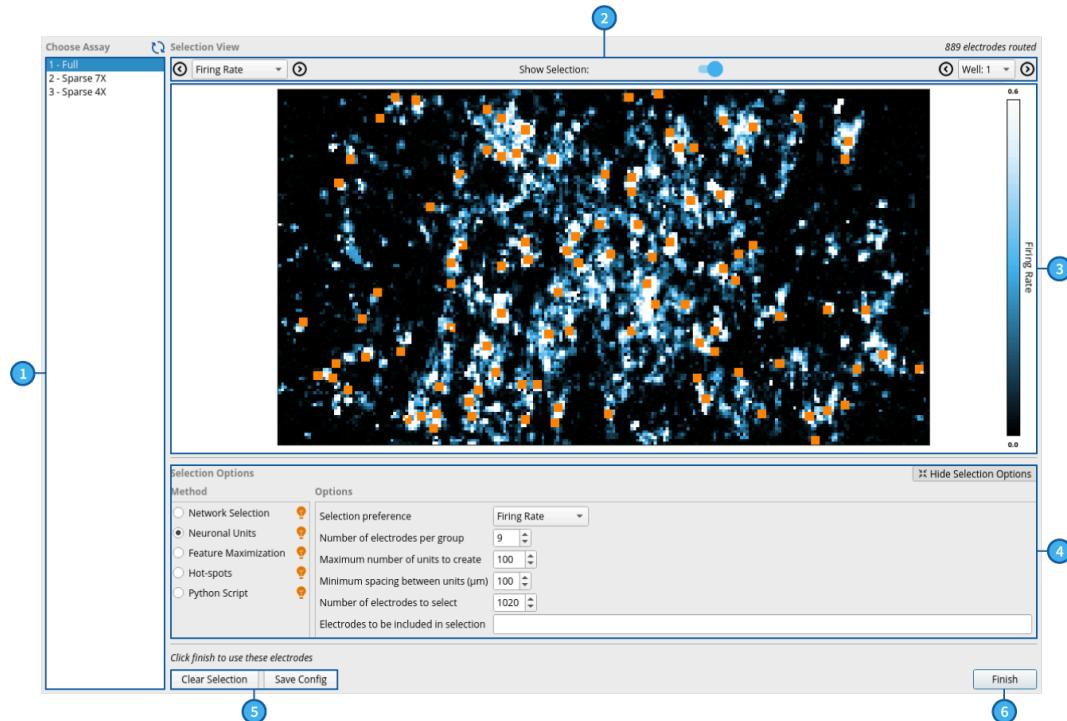

Figure 7.4. Network Selection Options
This button opens the window **Select Electrodes from Activity Scan** (Figure 7.4), which offers different algorithms for electrode selection to choose from. The different selection methods are outlined below.
As a prerequisite for an effective electrode selection, the location and activity of the cells on the array must have been previously identified in an Activity Scan Assay. The interface **Select Electrodes from Activity Scan**, (Figure 7.4) allows to choose between different selection algorithms and to visualize the selected electrodes.
(5) Selection Controls
The user can click **Evaluate Selection** to execute the electrode selection with the chosen parameters and display the selected electrodes in the visualization section (3). The **Evaluate Selection** button is not visible in Figure 7.4 since the selection has already been evaluated. Evaluating the selection leads to the display of the buttons **Clear Selection** (clear the current selection) and **Route Selected** (route the selected electrodes marked in (3) to recording channels). Once the electrodes have been routed, the button **Save Config** appears, which allows the user to save the selected configuration for later use. Note that the number of selected electrodes is displayed at the top of the window.
(6) Finish